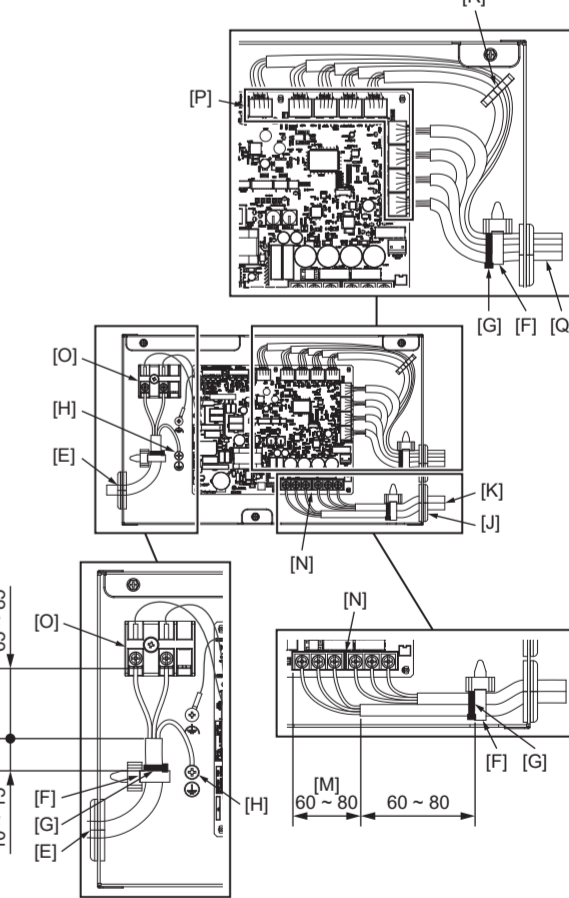

Fig. 5-6
- (2) Pass and wire the power cable and the ground wire through the wires entries given in the diagram. (Fig. 5-6)
- (3) Pass and wire the M-NET cable through the wiring entries given in the diagram. (Fig. 5-6)